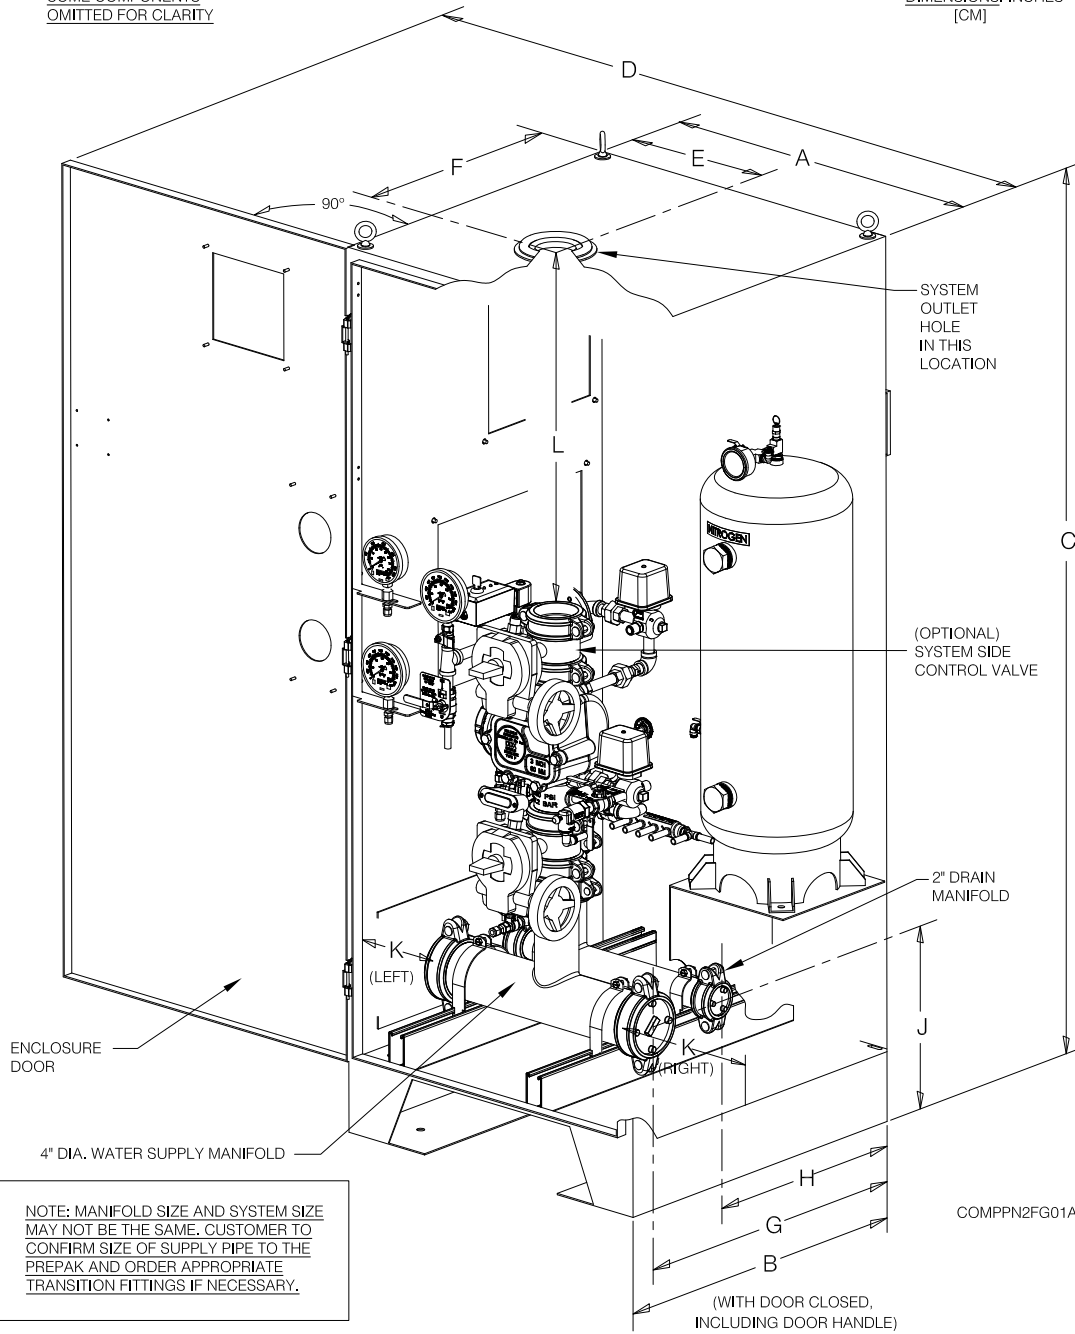

Fig. 1
The Reliable Model DDX-LP PrePak with integrated nitrogen generation (Sizes 2" (50mm), 2½" (65 mm), 3" (80 mm) and 4" (100 mm)) is a completely self-contained, supervised dry pipe system that can be readily installed within a floor space of less than 7 ft² (0.65 m²). Refer to Fig. 1 for cabinet dimensions. Installation of the DDX-LP PrePak requires just three piping connections: the water supply, the sprinkler system and the drain. Reference locations of these piping connections are shown in Fig. 1. Independent electrical supplies are required for the optional system air compressor (115 or 220 VAC) and the nitrogen generator (115 VAC).
- Refer to Figure 1 for dimensions.